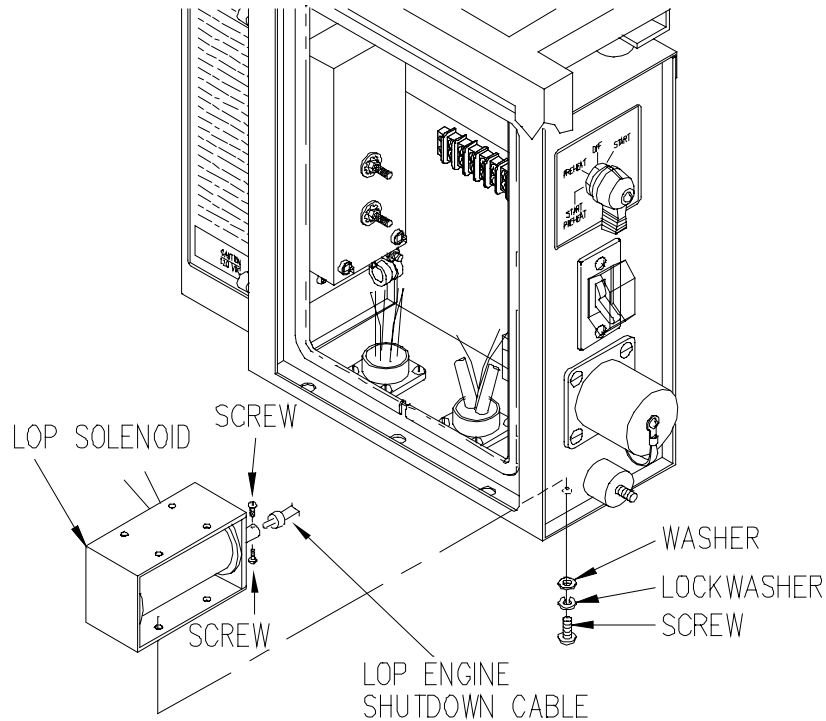

Figure 4-48. Low Oil Pressure (LOP) Solenoid Assembly
- (1) Install LOP solenoid (Figure 4-48) in control panel, ensuring LOP solenoid plunger is attached to LOP engine shutdown cable and is inserted in solenoid, with washers, lockwashers, and screws.
- (2) Connect electrical leads and remove tags.
- (3) Close and secure instrument panel.